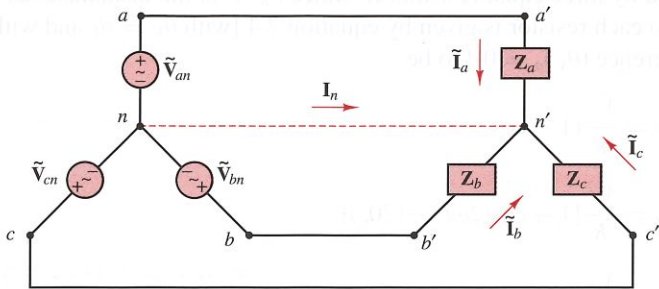
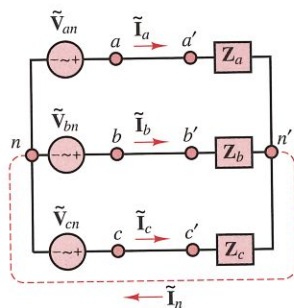

Figure 7.47 Balanced three-phase AC circuit
Figure 7.49 Balanced three-phase AC circuit (redrawn)
Consider a three-phase source connected in a **wye (Y) configuration**, as shown in Figure 7.47. Each of the three voltages is 120° out of phase with the others,
It is instructive to note that the circuit of Figure 7.47 can be redrawn as shown in Figure 7.49, where it is clear that the three branches are in parallel.
Another important characteristic of a balanced three-phase power system is illustrated by a simplified version of Figure 7.49, where the balanced load impedances are replaced by three equal resistors R . Since $\theta_R = 0$, the instantaneous power $p(t)$ delivered to each resistor is given by equation 7.4 [with $\theta_V = \theta_I$ and with the freely chosen reference $(\theta_V)_a = 0$] to be:
These results for purely resistive loads can be generalized for any arbitrary balanced complex load. Consider again in Figure 7.47, where now the balanced load consists of three complex impedances:
The relationship between a delta load and a wye load can be illustrated by determining the delta load Z_{Δ} that would draw the same amount of current as a wye load Z_y , assuming a given source voltage. Consider the circuits shown in Figures 7.47 and 7.51. For instance, the line current drawn in phase a by a wye load is: